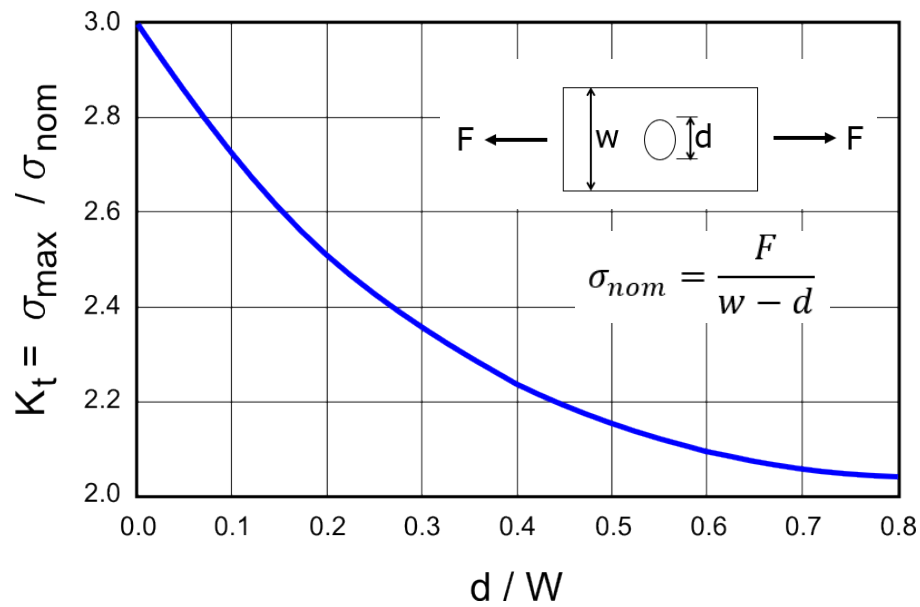

Figure 2.2 Stress Concentration factor where $\sigma_{\text{nom}} = \frac{F}{w-d}$
- Using the charts for theoretical stress concentration factor K_t (Figure 2.2) and notch sensitivity factor q (Figure 2.3), determine the fatigue strength reduction factor K_f . (5 marks)
Note: Figure 2.2 & 2.3 appears on page 4.